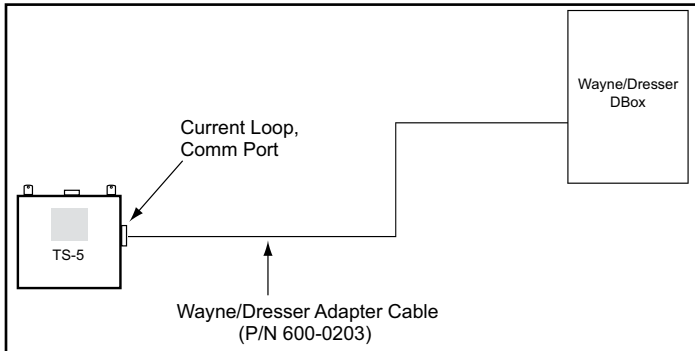

Figure 6: Connecting to Wayne/Dresser - Typical Installation
1. Plug the Wayne Dispenser Interface Cable (p/n 600-0203) into the TS-5 series CURRENT LOOP communication port (Figure 6).